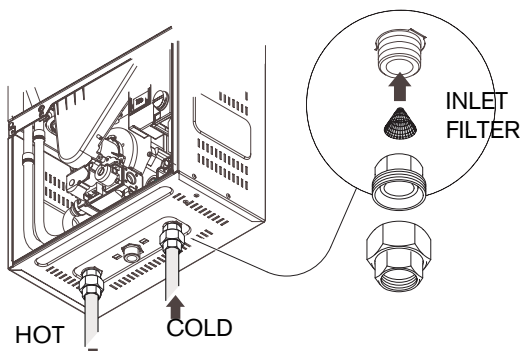

Fig. 38
- Verify the inlet filter screen is clean and undamaged. The inlet water filter is located within the 3/4" cold water inlet on the bottom right side of the appliance (See Fig. 38). Close installer supplied cold water shutoff and remove cold water supply pipe. Remove filter, clean or replace if damaged.